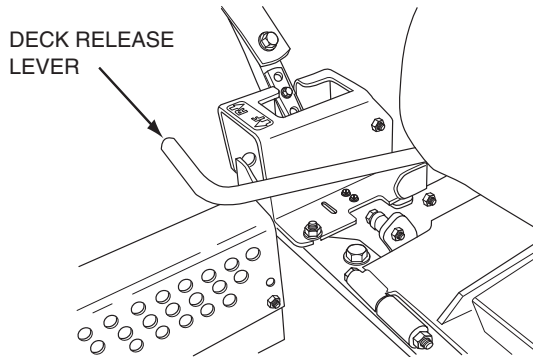
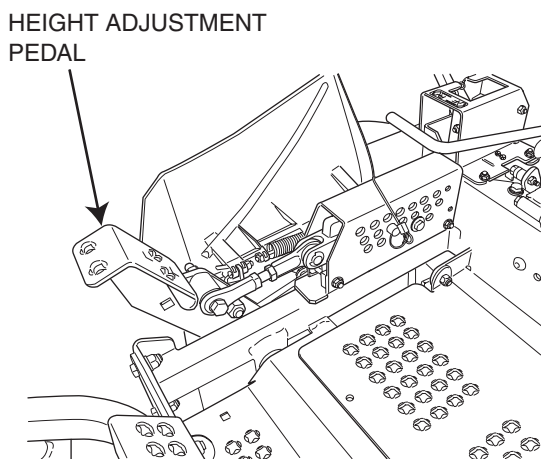

Figure 4-4 Deck Release Lever
Figure 4-5 Adjusting Cutting Height
2. Push the cutting height adjustment foot pedal all the way forward using your right foot until it locks in place. (Figure 4-5, page 19).
3. Insert the lanyard pin into the cutting height index at the desired cutting height. Push forward on the deck lift foot lever, hold in place and lift up on the deck release lever, (Figure 4-4). Slowly release the foot pedal. A deck height decal is located on the cutting height index as an aid in adjusting the deck to the desired height. (Figure 4-5).